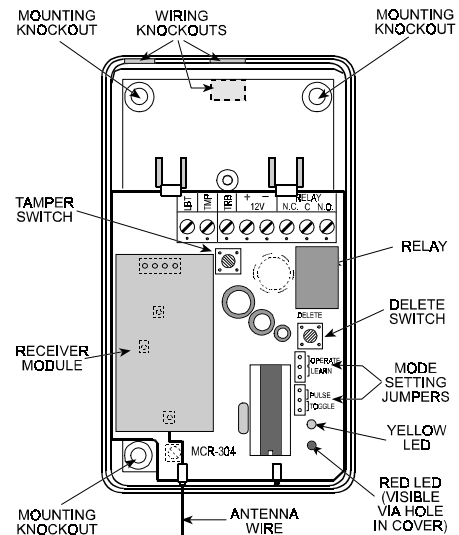

Figure 2. MCR-304 with Cover Removed
For construction details, refer to Figure 2.
- Hold the base against the mounting surface and mark the points for drilling (see mounting holes in Figure 2).